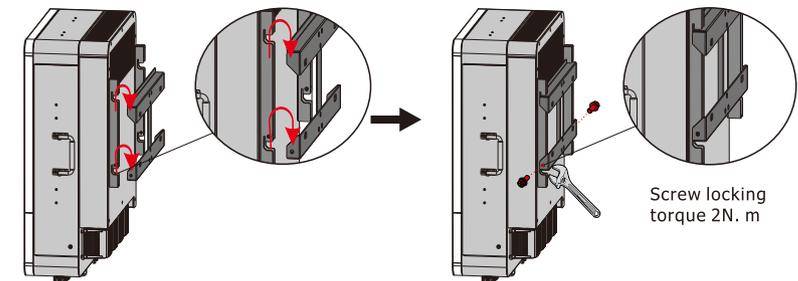

Figure 3.4-2 Installing an Inverter
**Step 2.** Lift the inverter to suspend it on the installation bracket, We can prevent theft by locking. See Figure 3.4-2.